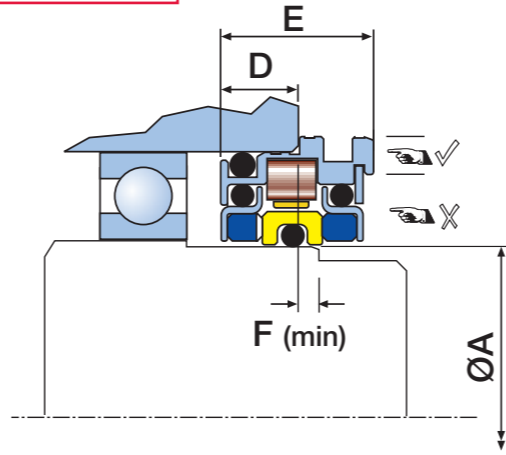
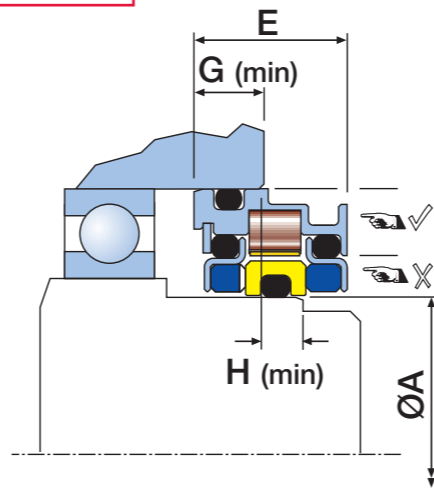

Figure 1
Figure 2
1. Ascertain which orientation the MagTecta OM™ is to be installed in. If it is to be installed in the normal (standard radial cross section) orientation follow point 2 until the shoulder on the outer body (item 5) is contacting the face of the bearing housing plate, as shown in figure 1. If the MagTecta OM™ is to be installed in reverse (larger radial cross section) orientation it must be installed within the dimensional envelope shown in figure 2. For sizes above 4.000" (100mm) ensure expulsion port is at the 6 o'clock position as shown in figure 3.